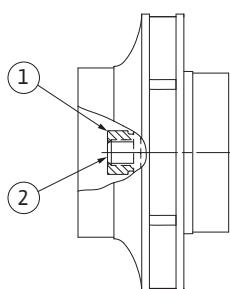

Fig. 49: Correct position of the impeller nut after the installation
29. Hold on to the shaft (see step 24) and tighten the impeller nut with the specified tightening torque (see Tab. 2 “Screw tightening torques”). The nut (Fig. 49, Item 1) has to be about  $\pm 0.02$  in ( $\pm 0.5$  mm) flush with the end of the shaft (Fig. 49, Item 2). If this is not the case, release the nut and repeat steps 25 to 29.